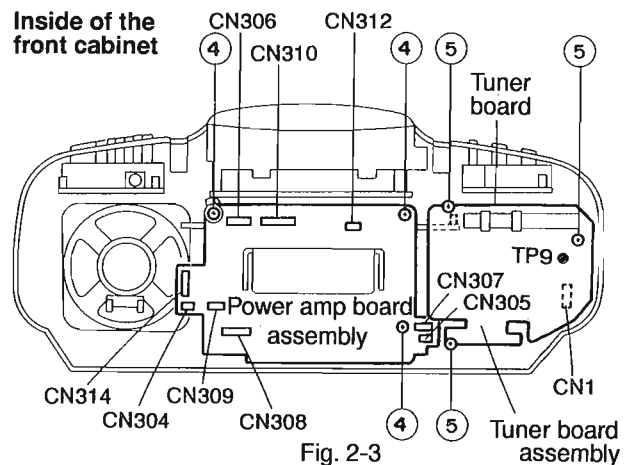

Fig. 2-3
- 1) Remove the 2 screws (1) securing the CD section.
- 2) Remove the 8 screws (2) securing the rear cabinet and handle.
- 3) Open the rear cover slightly and unplug the antenna wire from TP9 on the tuner board (Fig. 2-3).
◆ Tuner board assembly (Fig. 2-3)